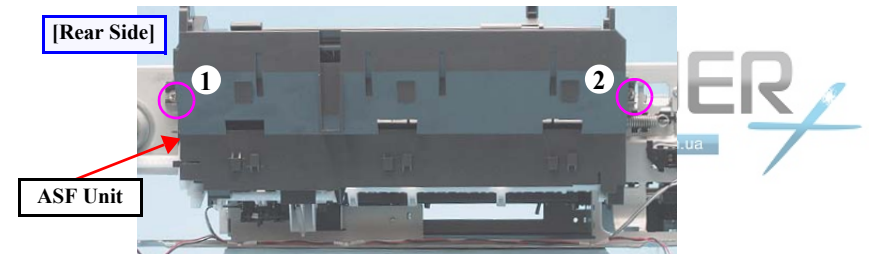

Figure 4-100. Disengaging the Hooks (ASF Unit)
- Tighten the screws in the order given in Fig.4-100 \(p.92\).